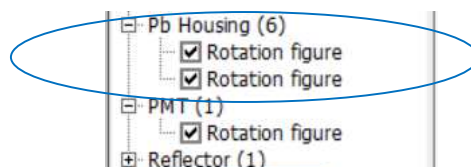

Figure 53.9
7.7 Add the element 'chamber housing'. To do this in the right pane click the button **New Element** and enter the name 'Pb housing'. Next, choose from the list the type of surface **Rotation figure**. In the dialog window **Rotation figure parameters** enter the data for the construction as shown in Figure 53.7. Then for this element, click the button **New Surface** and again select the **Rotation figure** and now enter the dimensions as shown in Figure 53.8. Thus, two surfaces will be used for this element (see Figure 53.9). [Section 3.2].